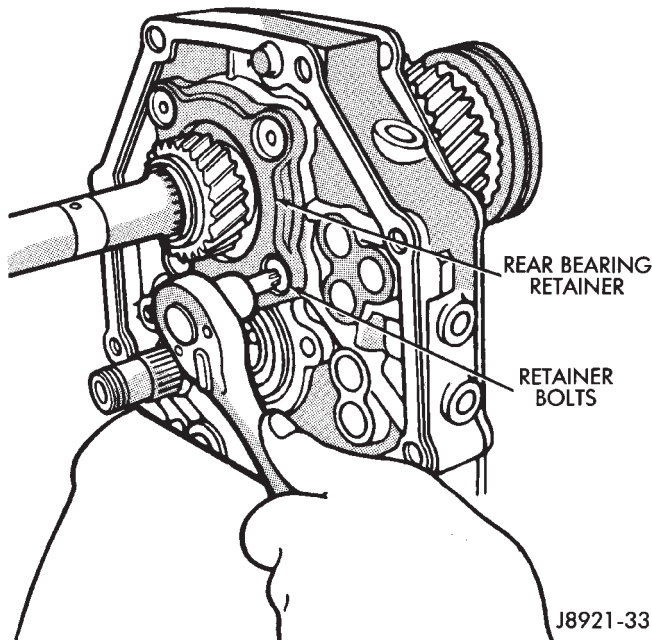

Fig. 33 Removing Rear Bearing Retainer
(7) Remove rear bearing retainer bolts with appropriate size torx bit and remove retainer (Fig. 33).